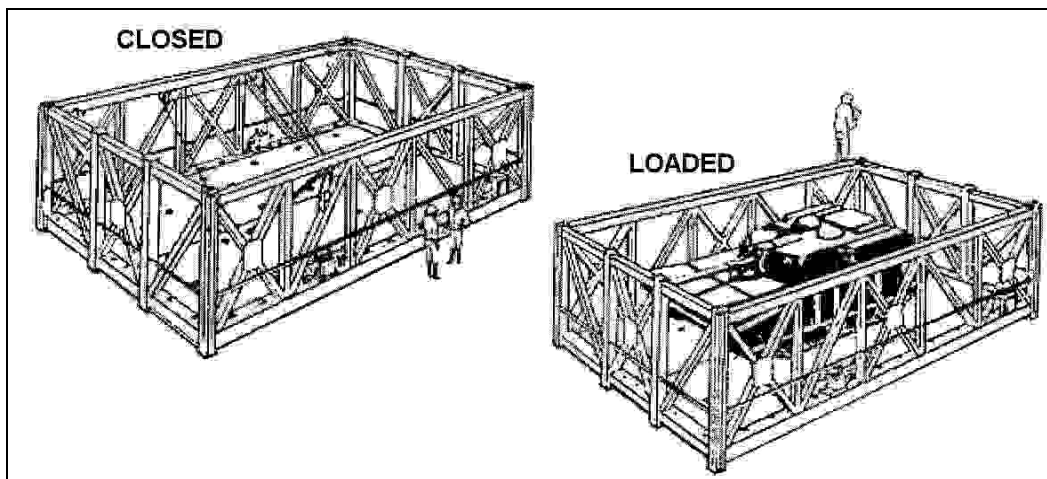

Figure 3-45. Seasheds (Closed and Loaded)
2. Secure vehicles or cargo in seasheds (see Figure 3-45).